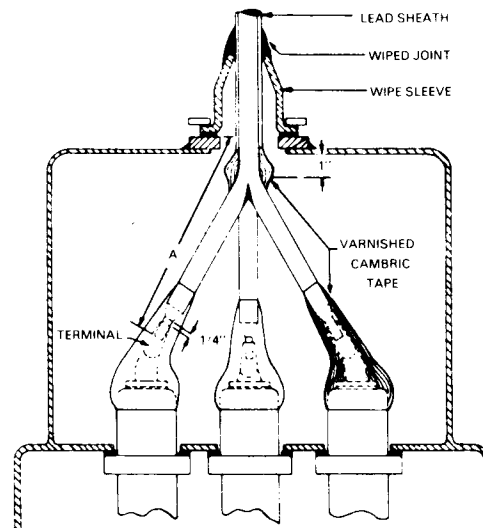

Fig. 5 Terminal chamber
junction boxes in the same manner as single-conductor cable. The bushing terminals shown in Fig. 5 are located on the arc of a circle having a radius (A), so that all three cables can be cut to the same length. Both straight wiping sleeves (Fig. 5) or angle wiping sleeves (Fig. 1) are attached to the cable in the same manner.